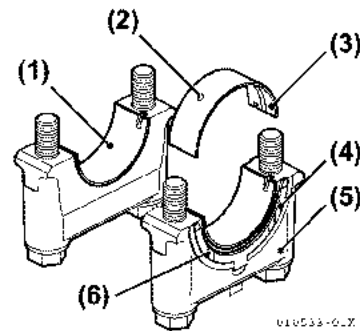

**Figure 5-53**
50. Remove the main bearing bolts (Figure 5-53).